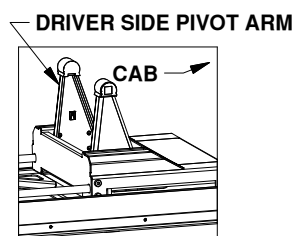
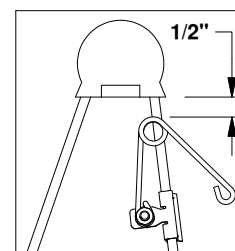

Figure D3: Base view.
Figure D4: Driver side pivot arm.
- Attach kit.** Locate the flange which will be closest to the truck cab on the driver side pivot arm, see Figure D3. The clip should be placed so that when the spring's coil is in line with the edge of the arm there will be 1/2" of clearance between the bottom of the rubber bumper and the top of the spring, see Figure D4. Drive the clip securely onto the flange with a hammer.